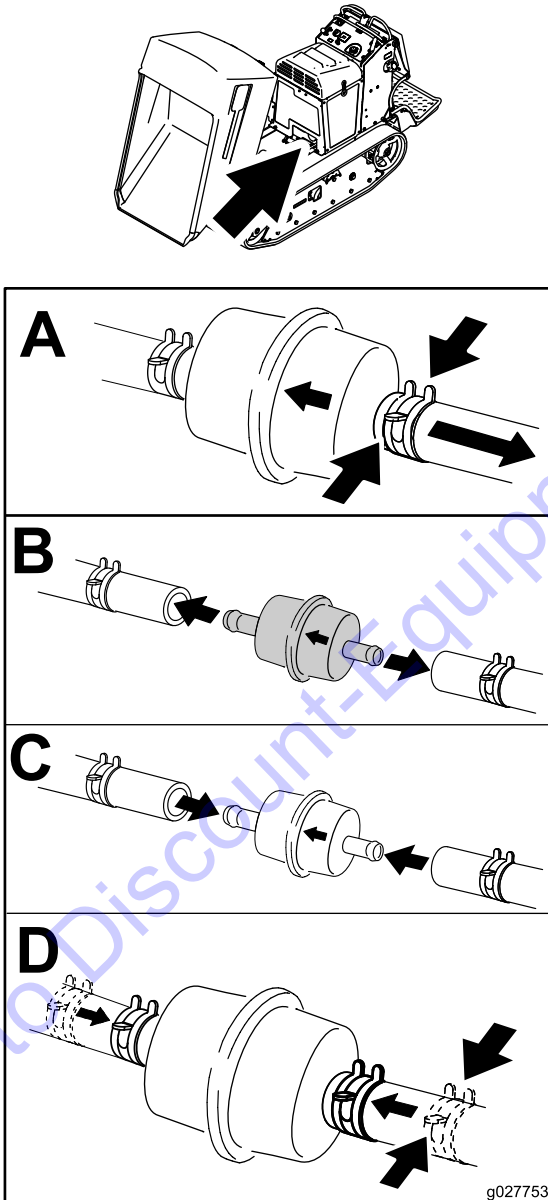

Figure 33
3. Replace the fuel filter as shown in Figure 33.